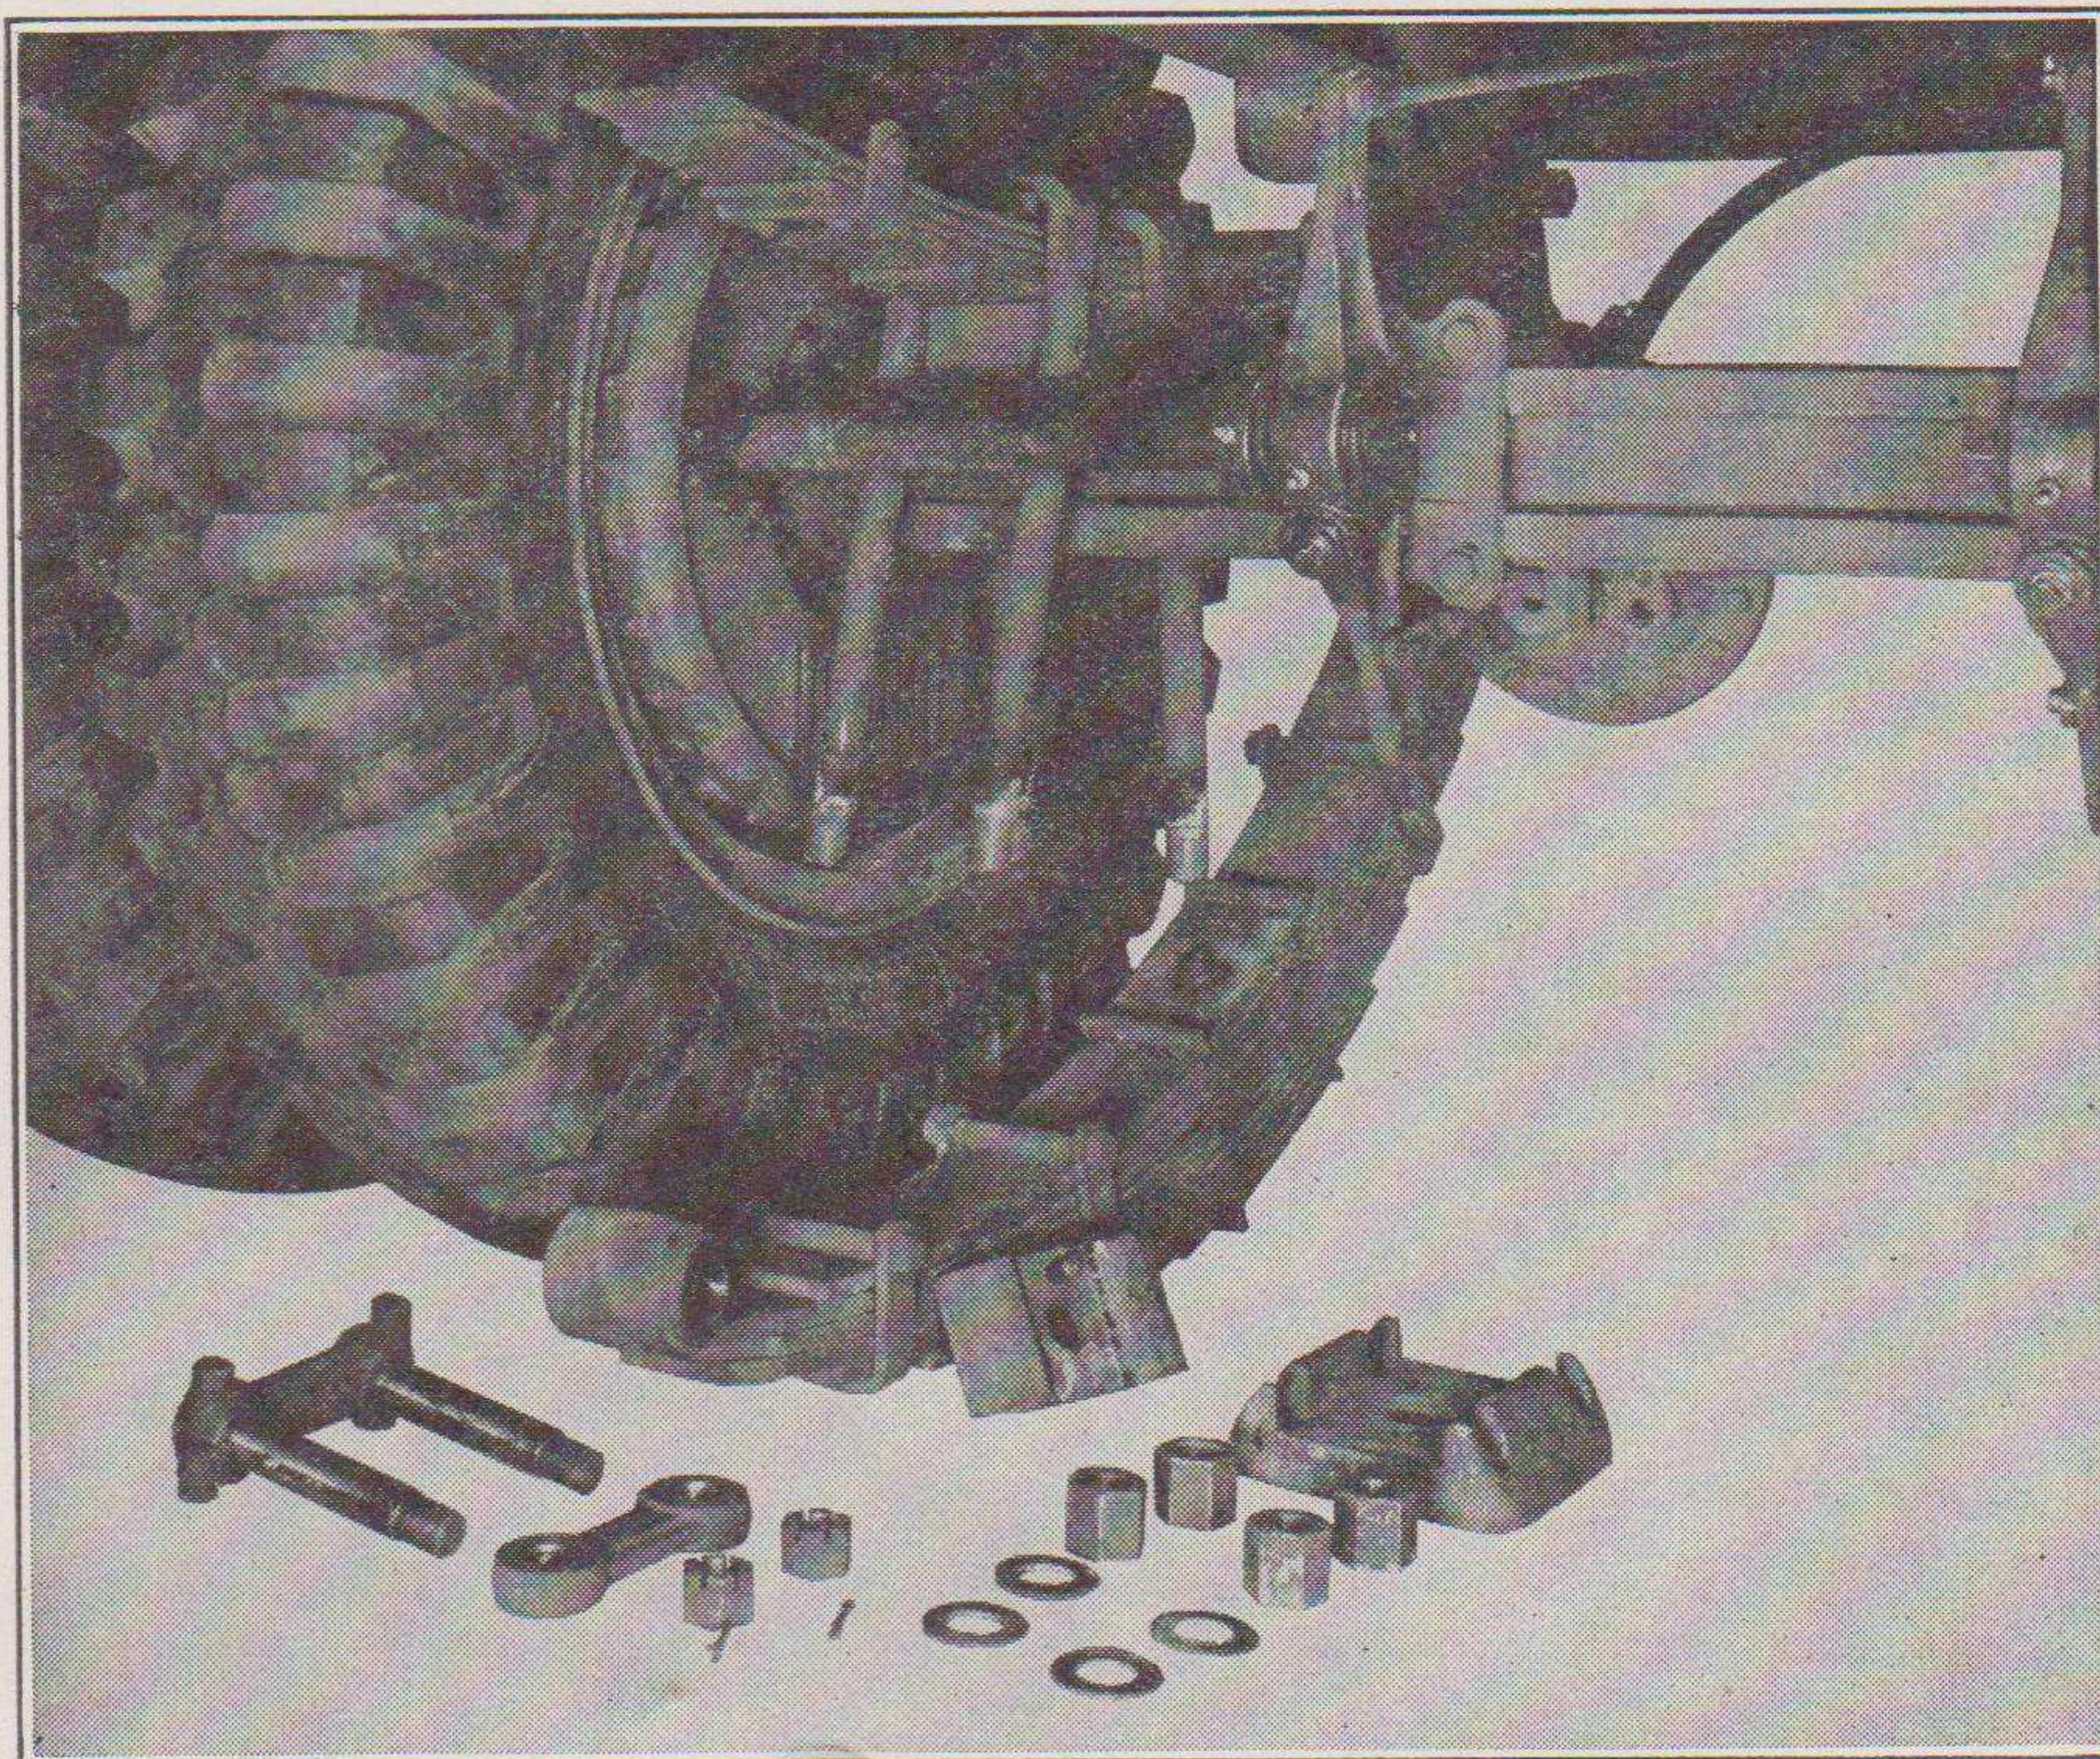

FIGURE 35. REMOVING SPRINGS
1. REMOVING MAIN SPRING (Refer to Figure 35).—*a.* This can be accomplished without removing the wheel or hub assembly.